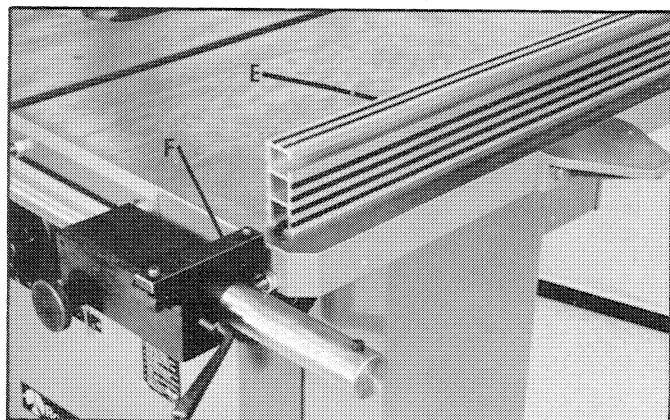

Fig. 18
4. Slide fence (E) Fig. 18, onto clamping plate (F). NOTE: Fence (E) can be assembled to the fence body in either the vertical or horizontal position.